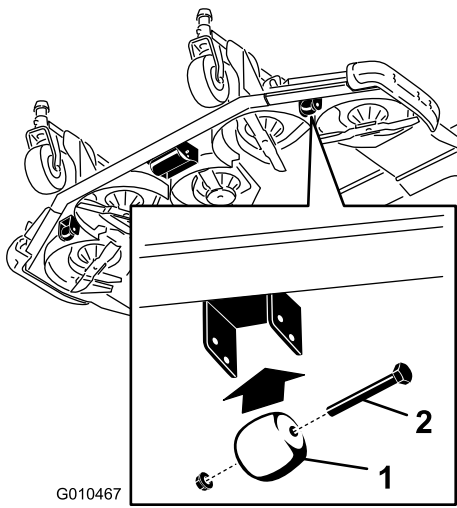

Figure 31
- Remove the screw and nut securing the roller shaft to the deck bracket (Figure 31).
1. Remove the bolt and nut securing the gage wheel to the cutting unit brackets (Figure 31).